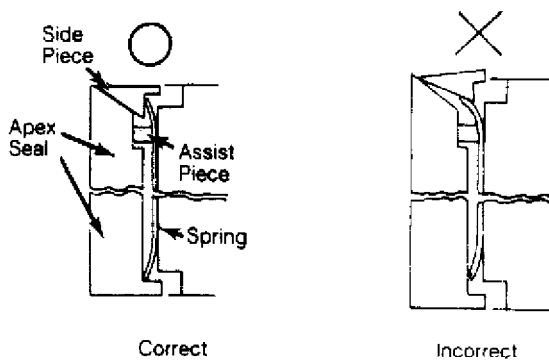

Fig. 25: Positioning of Apex Seal and Spring
5) Confirm that spring is set correctly on side piece. See Fig. 25. Confirm smooth movement of each seal by pressing on head.